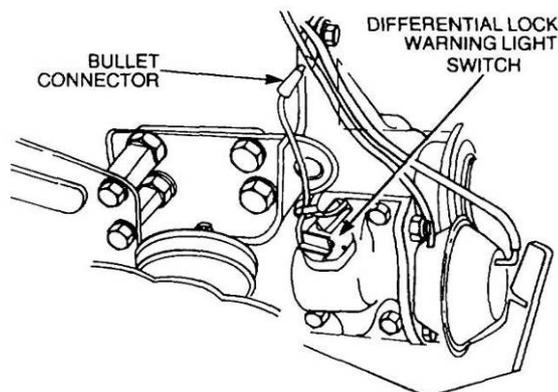

Figure 58 Disconnection of the Differential Lock
- n.** Disconnect the bullet electrical connector from the differential lock warning light switch (Figure 58). Tag and disconnect the vacuum hoses from the differential lock vacuum chamber.